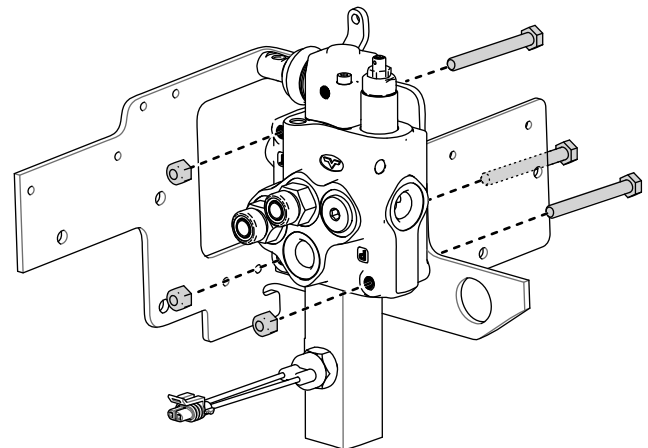

Figure 11
9. Remove the 3 bolts and nuts securing the auxiliary valve to the bracket (Figure 11).